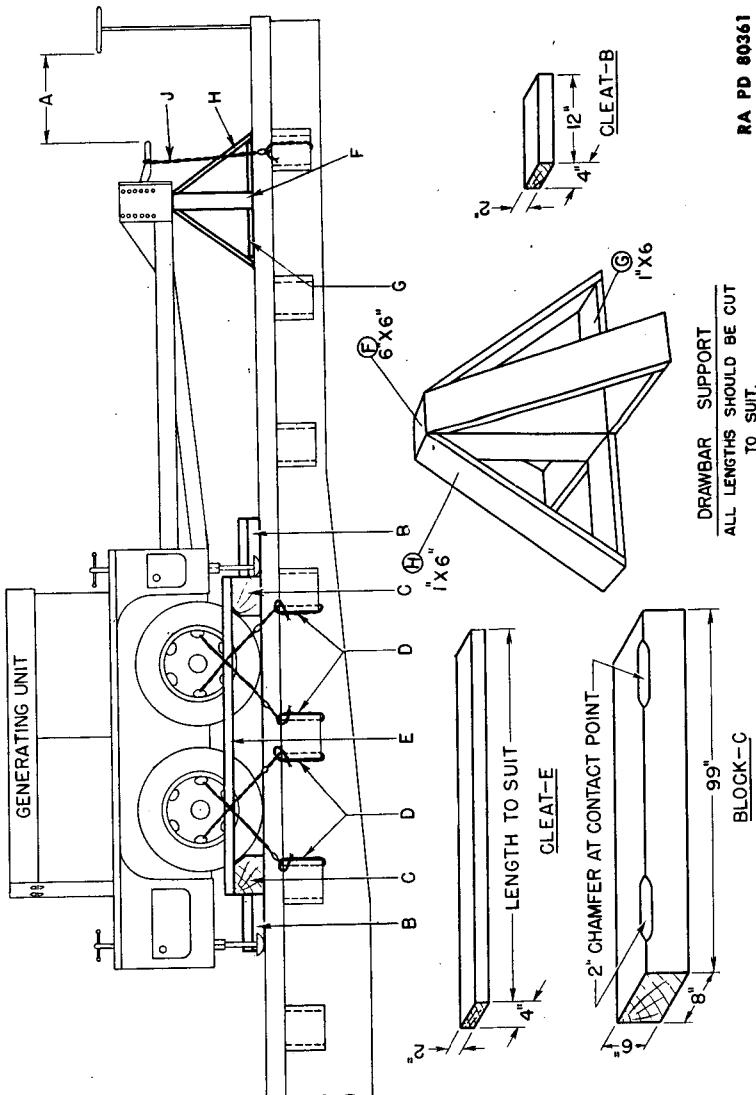

Figure 90—Method of Blocking Generator Trailer M7 on Railroad Car
f. **Blocking Trailer and Unit on Railroad Car (fig. 90).**